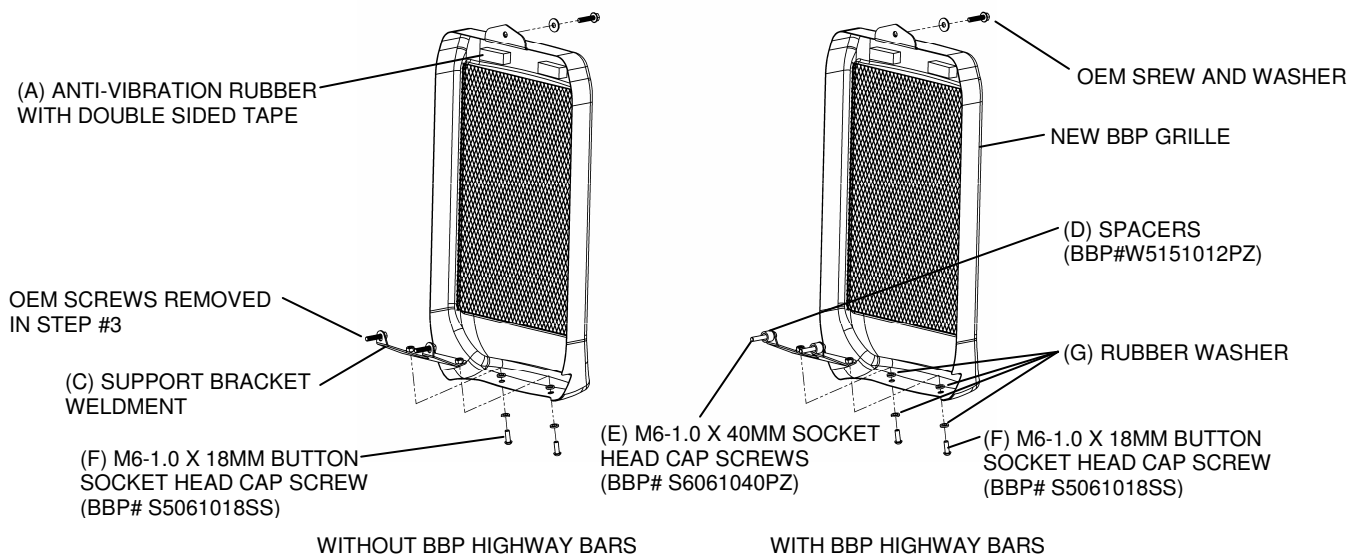

Figure1 - PLACEMENT OF MOUNTING SCREWS AND WASHERS
4. INSTALL THE ANTI-VIBRATION RUBBER WITH DOUBLE SIDED TAPE (A) ON BACK OF NEW BBP RADIATOR GRILLE (B) LINING UP CORRECTLY WITH THE BIKE, AS SHOWN IN FIGURE 1 BELOW. EACH ABOUT 1 INCH FROM THE EDGE AND A 1/2 INCH ABOVE THE MESH GRILLE INSERT.
5. INSTALL SUPPORT BRACKET WELDMENT (C) USING 10MM SOCKET WRENCH AND THE TWO SCREWS REMOVED, FROM THE BOTTOM OF THE RADIATOR, IN STEP #3. THE SLOTTED HOLES SHOULD BE UP AGAINST THE RUBBER ISOLATORS ON THE BOTTOM OF THE RADIATOR BRACKET. INSTALL BUT DO NOT TIGHTEN COMPLETELY.
6. IF INSTALLING OVER BBP HIGHWAY BARS, THE SUPPORT BRACKET WELDMENT (C) SHOULD BE INSTALLED WITH THE TWO SPACERS (D) AND THE TWO M6-1.0 X 40MM SOCKET HEAD CAP SCREWS (E), AS SHOWN BELOW IN FIGURE 1.
7. TEMPORARILY INSTALL THE NEW BBP RADIATOR GRILLE (B) (OVER BBP HIGHWAY BARS, IF MOUNTING GRILLE OVER BBP HIGHWAY BARS) BY ALIGNING THE TOP MOUNTING HOLE WITH THE MOUNTING HOLE ON THE TOP OF THE RADIATOR, AND THE TWO BOTTOM MOUNTING HOLES WITH THE SUPPORT BRACKET MOUNTING HOLES. REMOVE THE NEW BBP RADIATOR GRILLE (B) AND TIGHTEN THE SCREWS THAT ARE HOLDING THE SUPPORT BRACKET WELDMENT (C) FROM STEP #5 OR STEP #6.
8. INSTALL THE NEW BBP RADIATOR GRILLE (B), AS SHOWN BELOW IN FIGURE 1. THEN USING 10MM SOCKET WRENCH, INSTALL TOP OEM M6-1.0 X 30MM LONG HEX HEAD SCREW AND WASHER, (2) M6-1.0 X 18MM LONG BUTTON SOCKET HEAD CAP SCREWS (F), AND (4) RUBBER WASHERS (G), THEN TIGHTEN ALL THREE SCREWS.